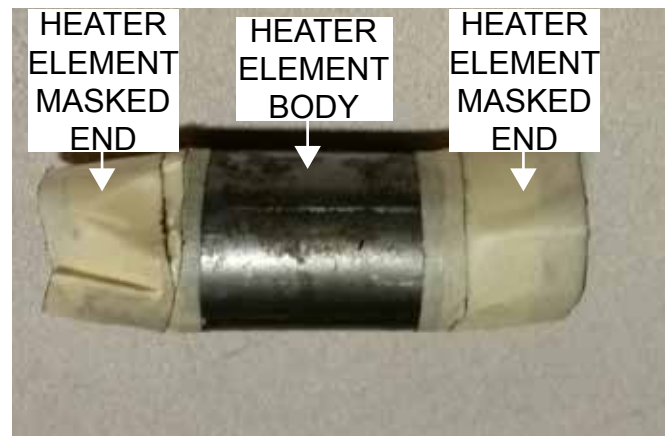

Figure 4. Tape Masked Heater Element
2. Thoroughly clean both ends of the heater element and cover each side with masking tape as shown in Figure 4. Make sure the heater element body is exposed.